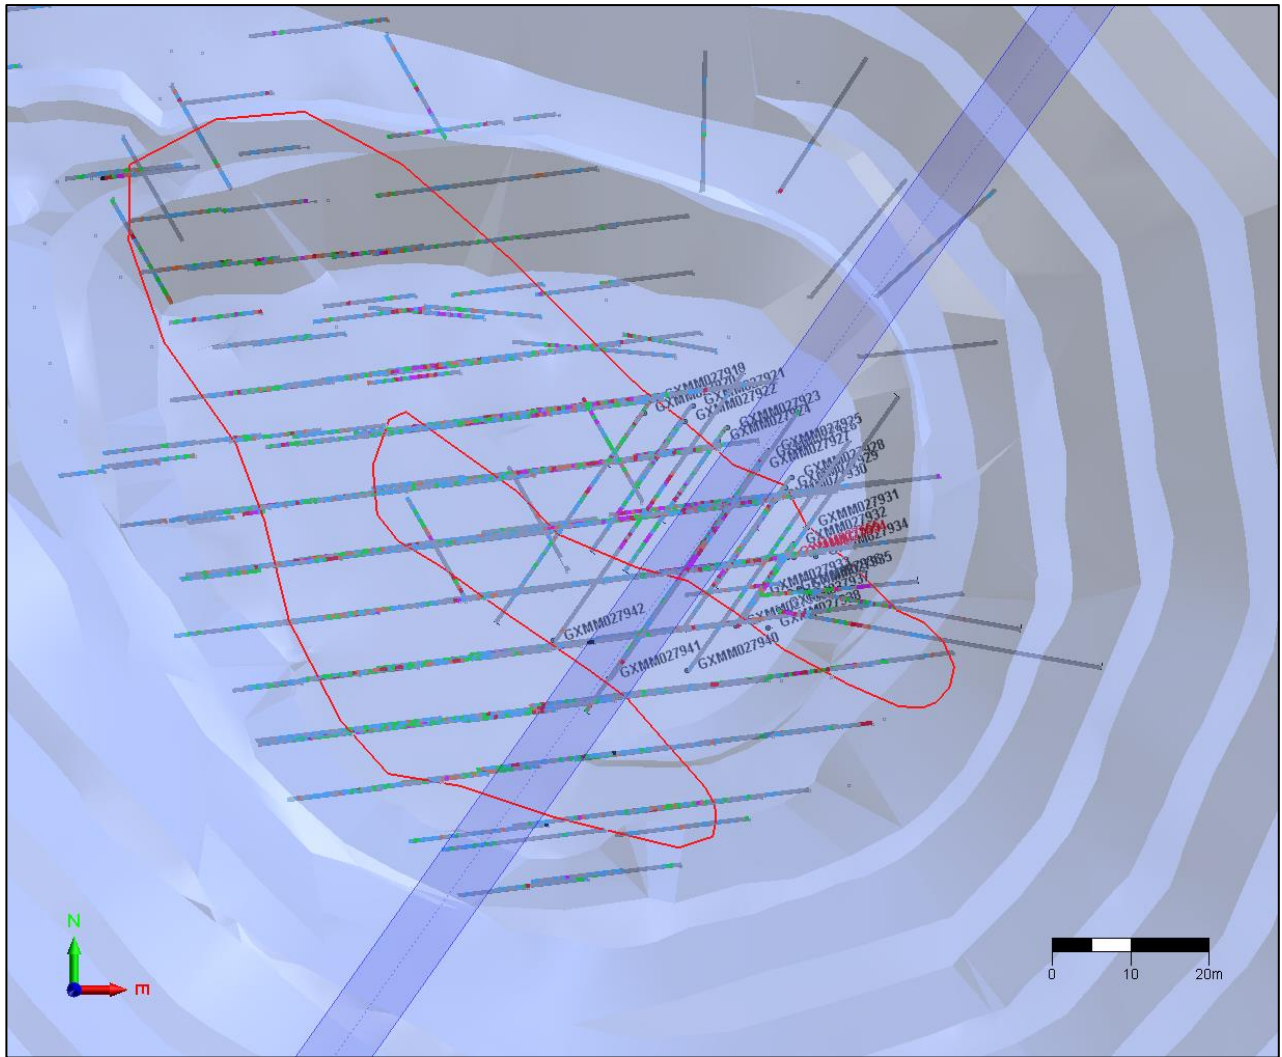

Figure 2: Stellar GC infill drilling plan, showing Figure 3 section position
- **34m at 25.3 g/t** from 8m, including **10m at 79.9 g/t** from 32m (refer Figure 2) in GXMM027927
- **18m at 25.7 g/t** from 34m, including **7m at 38.1 g/t** from 34m (refer Figure 2) in GXMM027941
Twenty-four new RC holes (1,680m) were completed from the 365mRL pit floor (surface 440mRL). Holes were drilled on a close spaced pattern of around 5m x 5m and several holes were completed in alternate orientations (refer Figures 2 & 3).